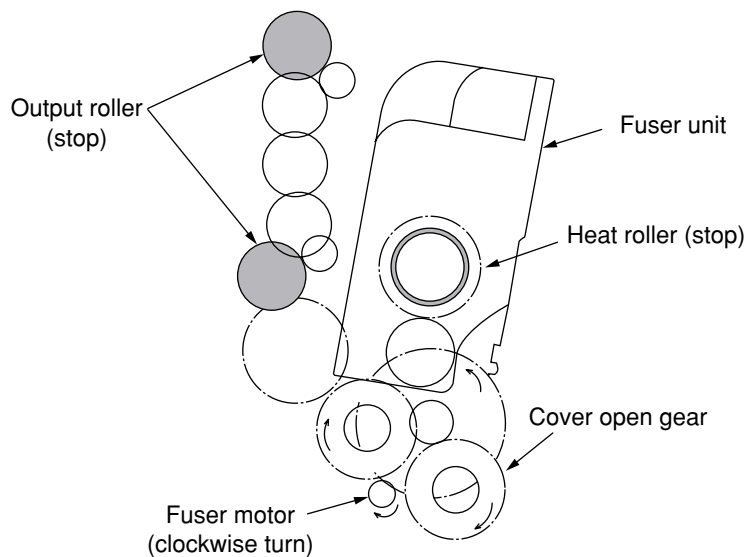

Figure 2-8
1. As shown in Figure 2-8, when the fuser motor turns clockwise, the cover open gear also turns and the covers of the color registration sensor and the density sensor will open.